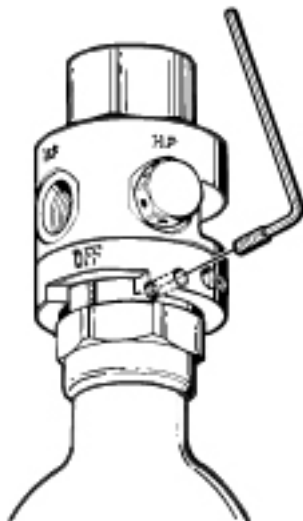

Figure 32 - Indicator ring alignment
**CAUTION:** It is important to allow a waiting period of at least twelve (12) hours before proceeding further, and then re-torque the spring retainer (2) and safety plug (11c) according to steps 15 & 19. These parts may otherwise lose their original torque values after the seals have become slightly compressed, which could result in leakage of air.
21. Install the O-ring (16) onto the port swivel (17), at the base of the male threads. Install the other two O-rings (18) into the two grooves on opposite sides of the orifice of the port swivel.
24. Mate the stem of the valve assembly through the flat side of the indicator ring (15), so that the indicator ring is flush against the first stage body and the "OFF" aperture is facing down.
26. Turn the indicator ring clockwise to align the set screw hole with the female threaded hole of the valve assembly which is to the immediate right of the indicator pin. (See Figure 32).